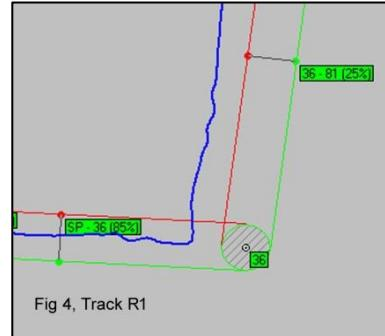
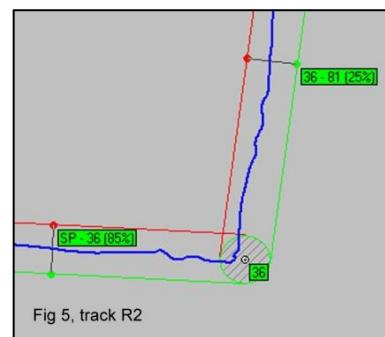

Fig 4, Track R1
Fig 5, track R2
- 3) R1 (red in figs 1 – 3) is equally similar EXCEPT between about 02:29:10 & 02:38:04 where the whole leg is weirdly displaced very neatly some hundreds of metres to the west. Fig 4 shows R1 relative to the task at the SW corner, Fig 5 shows R2 relative to the task in the same place. R1 misses all the gates in the whole leg whereas R2 & R3 hits them all.